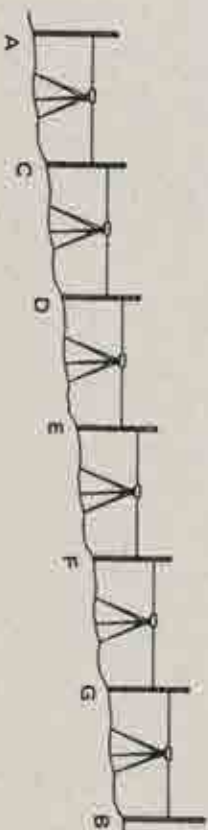

Fig. 6
* If the distance between points A and B is large (Fig. 6)
- (1) Divide the distance into an even number of sections, and determine the height difference of the respective sections (A and C, C and D, ...) as described above.
- (2) The height difference between points A and B is the total of the height differences of all the sections.